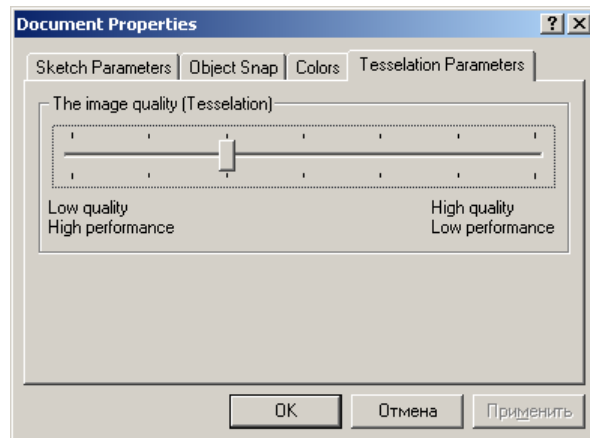
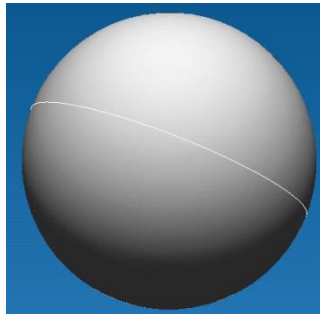
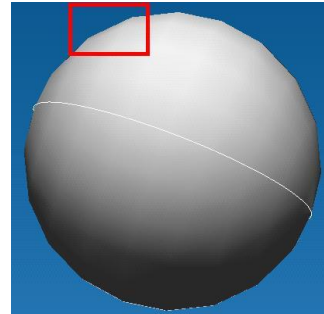

Fig. 3.3.4 Document Properties dialog box (Tesselation Parameters)
Fig. 3.3.5 High picture quality
Fig. 3.3.6 Low picture quality
**Tessellation Parameters.** Making active this sheet (Fig. 3.3.4), you can set quality of 3D model display on the screen. As an example, we shall consider a sphere with a high quality (Fig. 3.3.5) and a low quality (Fig. 3.3.6) of tessellation. As you can see from the presented pictures, poor quality caused rougher approximation of the surface but the visual image degradation does not influence the quality of the finite element mesh.